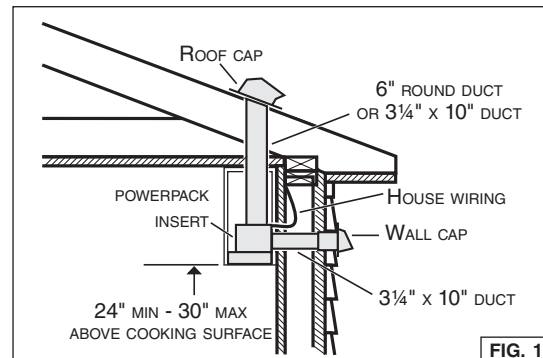

FIG. 1
1. Decide where the ductwork will run between the powerpack insert and the outside. (FIG. 1)